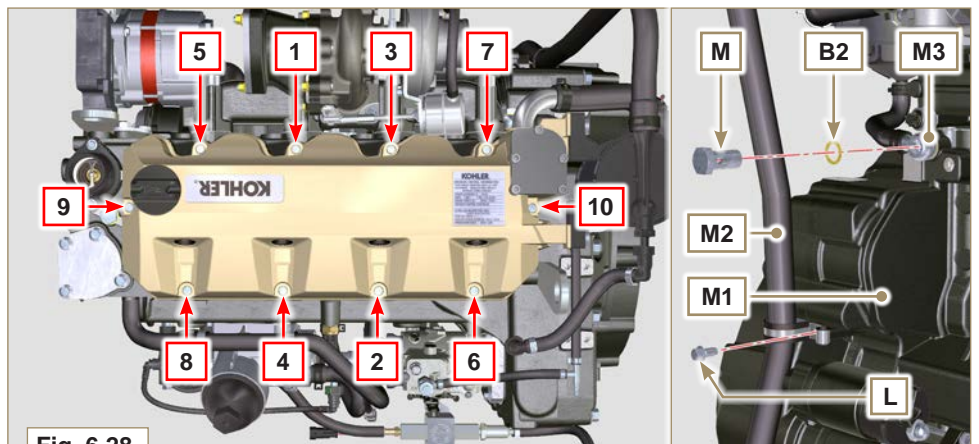

Fig. 6.28
- 3 - Attach the rocker arm cover **P** on the head **A2** with the screw **N** adhering to the tightening sequence shown in **Fig. 6.28** (tightening torque to **10 Nm**).